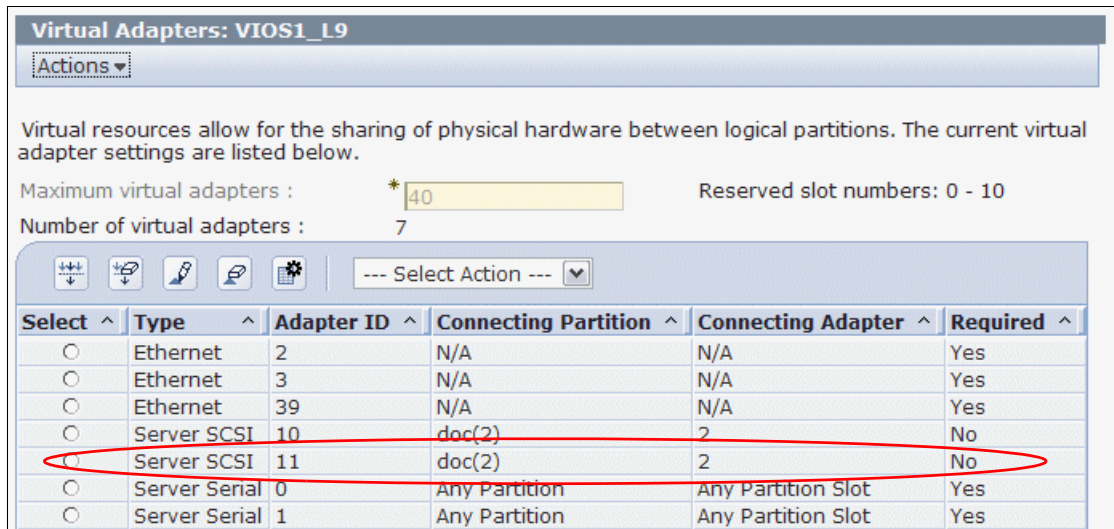

Figure 9-5 Display new virtual SCSI adapter
- Now, you can see the new virtual SCSI adapter in the Virtual Adapters window as shown in Figure 9-5. In our example, we set up the adapter to connect to the *doc* partition with *Adapter ID 11*.